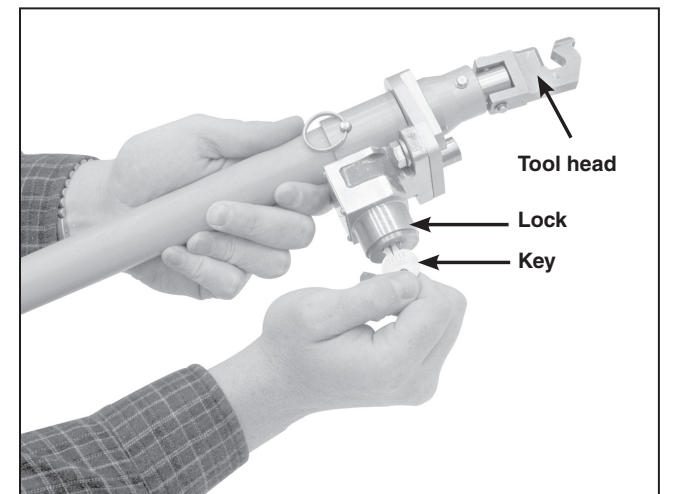

Figure 13. If furnished, use the key from the disconnect to lock the tool head in place.
- STEP 6.** If an optional key interlock is provided, remove the key from the disconnect. Use the key from the disconnect to lock the tool head in place. See Figure 13.